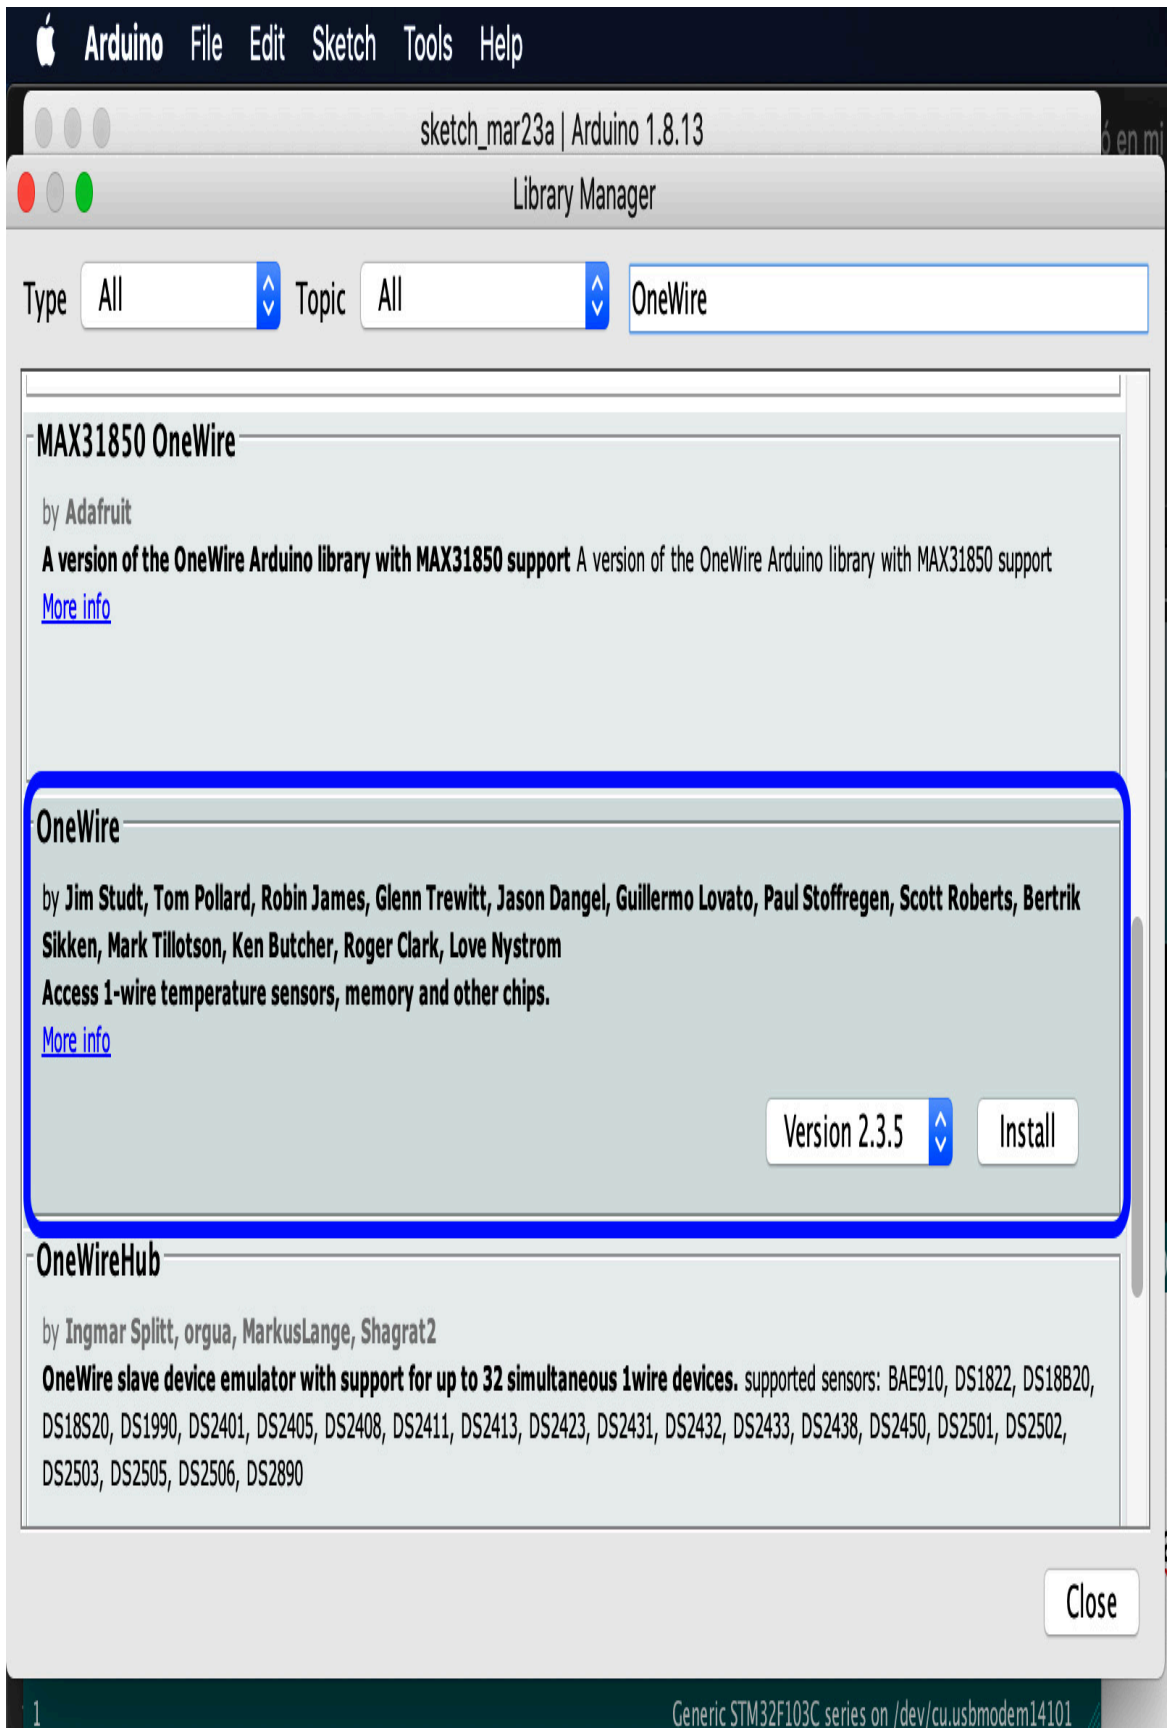

Figure 9.9 – Installing the OneWire library
2. Next, we will search the library by entering the word **OneWire** in the search box. We will install the one created by the 1-wire protocol developers, so please install the one from Jim Studt and his colleagues (see *Figure 9.9*):